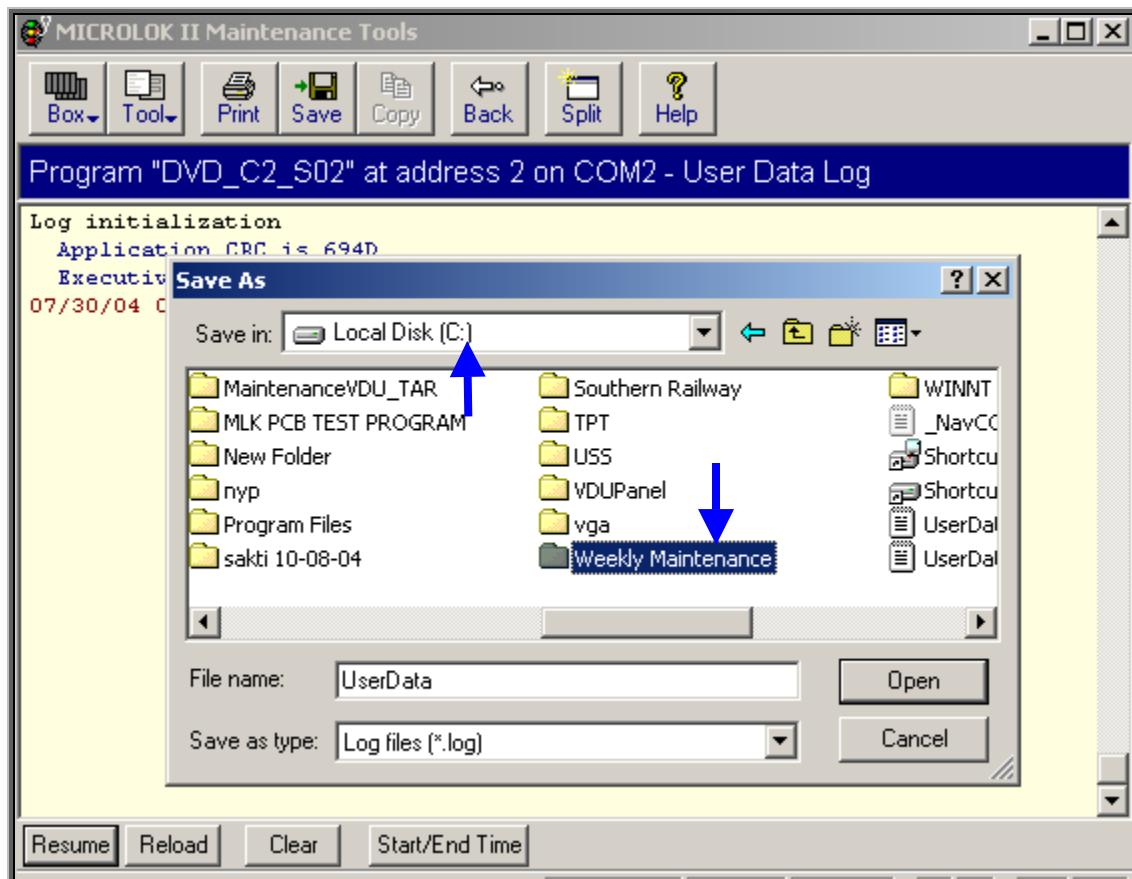

Figure-5.6.2.6
- ❖ Double click on the “Weekly Maintenance” folder in the Maintenance PC “C” drive (Figure-5.6.2.6).